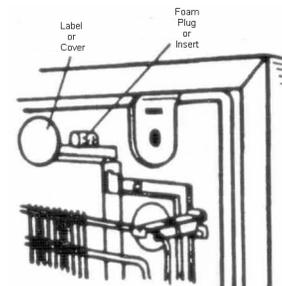

Figure 6
4. Looking at the back of the refrigerator, for external condenser coil models see Figure 6, for smooth back or external wiring models see Figure 7. **SAFETY! For external condenser models, cover the wire grid along the top with cardboard or cloth to protect you from cuts and scrapes.** If you have an external condenser coil, you may need to loosen the right side mounting clips to route the water fill tubing and to attach the fill tubing mounting clips. **Caution, be careful with the coil if you have to move it, damage can occur to the cooling system.**
5. Locate the inlet cover for icemaker installation, for external condenser coils see Figure 6, for smooth back models see Figure 7. The inlet cover may have a plug or a label covering the inlet opening. If it is a plug, gently remove the plug with a putty knife or screwdriver. If there is a label, there will be a "cut here" pattern, using a sharp knife to cut as directed on the label. Remove the underlying insulation using needle nose pliers. Fold cut label into opening to clear opening. If there is an existing water inlet tube, remove the insulation plug (see Figure 8) before proceeding.